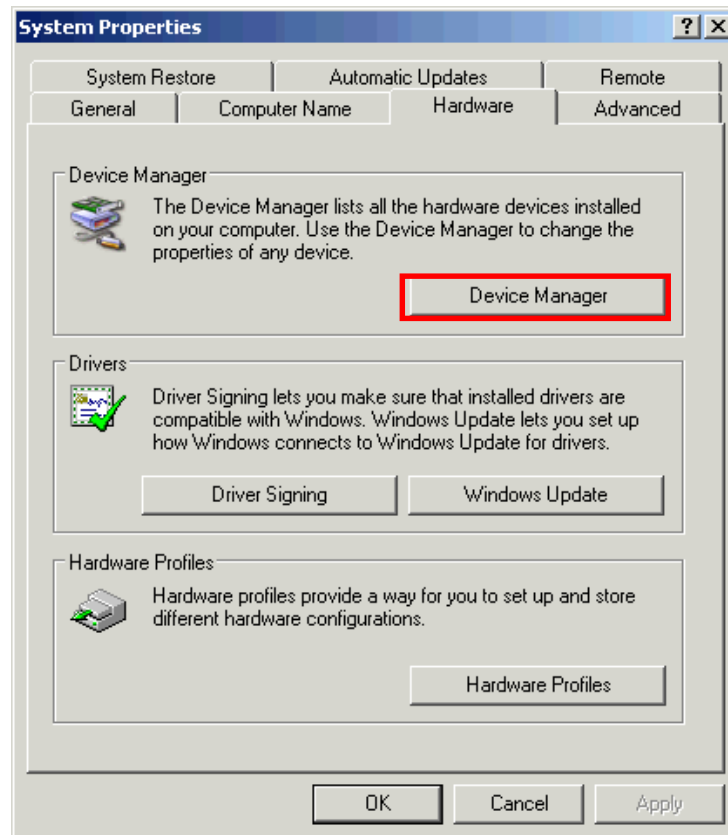

Figure 39: System Properties/Hardware Tab/Device Manager Button
10. On the *System Properties* dialog box, open the *Hardware* tab and then click the *Device Manager* button (see Figure 39).